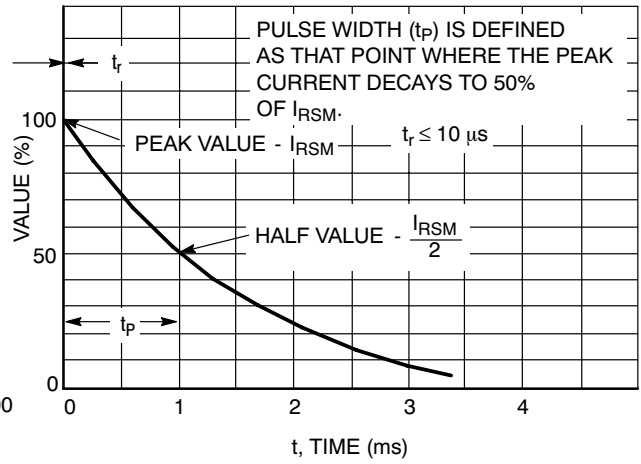
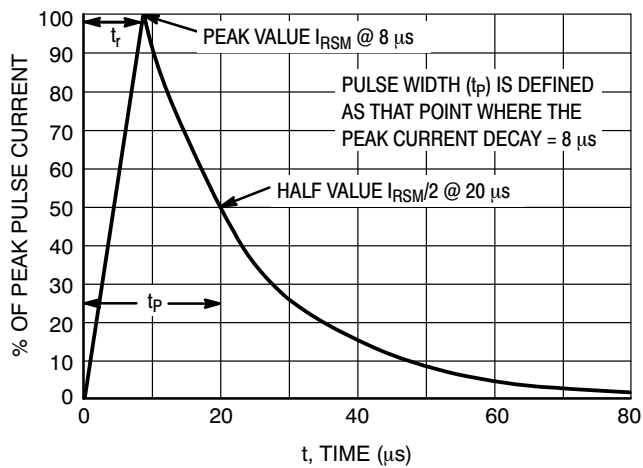

Figure 2. 10 X 1000  $\mu s$  Pulse Waveform
Figure 3. 8 X 20  $\mu s$  Pulse Waveform
1. Non-repetitive current pulse at  $T_A = 25^\circ\text{C}$ , per waveform of Figure 2.
2. Non-repetitive current pulse at  $T_A = 25^\circ\text{C}$ , per waveform of Figure 3.
7. Surge current waveform per Figure 2 and derate per Figure 3.